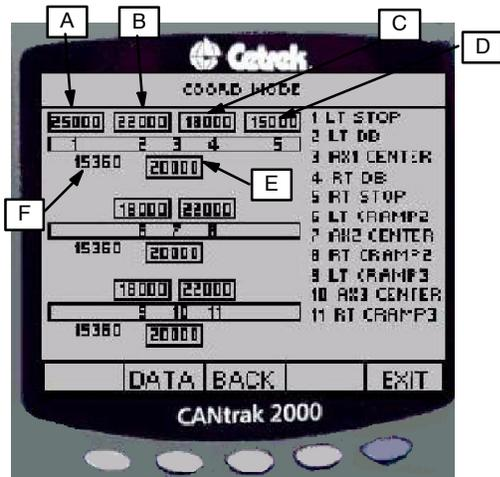

Figure 10. Encoder Value Screen Showing Front Axle Information
2.1.12 Front Axle Values (see Figure 10)